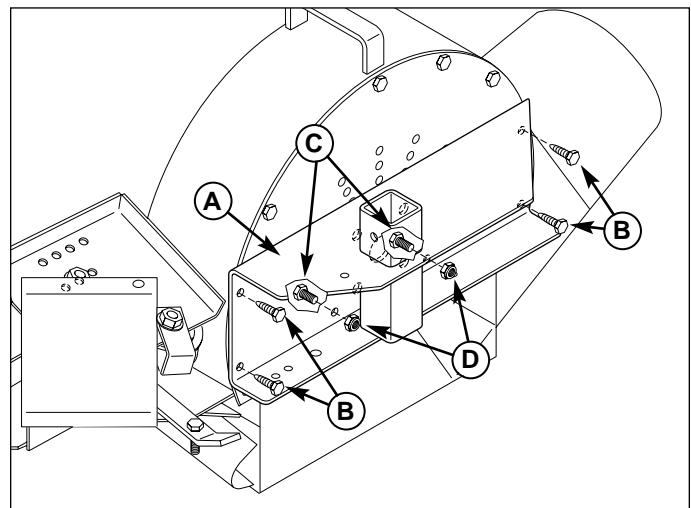

Figure 25. Install Blower Mount Plate
4. Install the blower mount plate (A, Figure 25) onto the back plate of the blower. Install the four 5/16-18 x 3/4" self-tapping bolts (B), but do not tighten until all screws have been started. Tighten securely.
5. Install two 5/16" x 3/4" bolts (C) near the bearing. Secure with the 5/16" nylon lock nuts (D) as shown.